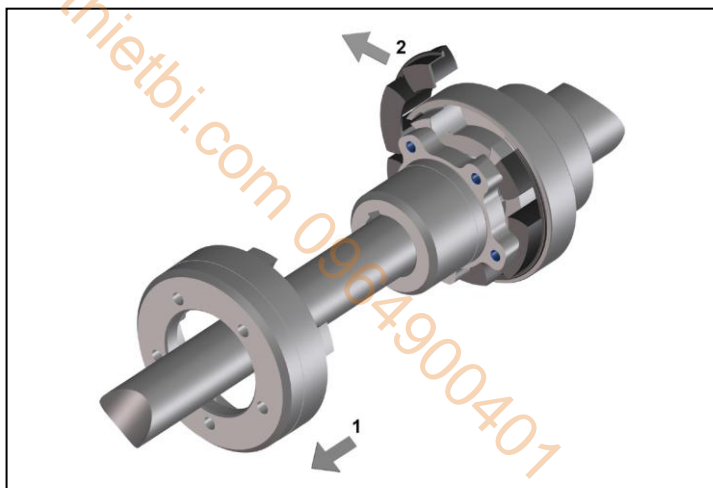

Fig. 9
- Remove the fixing screws on the claw ring and push it back (Figure 9, Pos. 1).
- Cut through the intermediate ring at a connecting part (Figure 9, pos. 2).